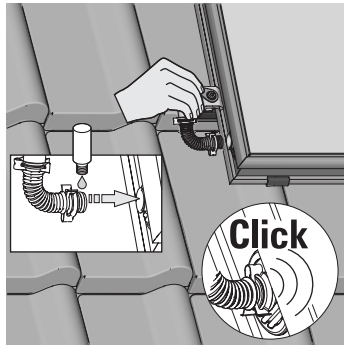

Fig. 3-41 Work step 2
2. Install connection fittings (Fig 3-41).